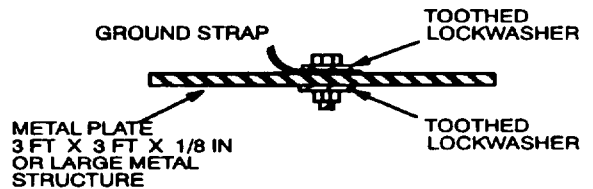

Figure G-9.
(1) In the desert, a ground plate may work better than a ground rod. Use a clean, bare metal plate or sheet at least 3 feet square and at least 1/8 inch thick. Select a metal bolt, nut and lockwasher, then drill a hole in the center of the plate just large enough for the bolt. Fasten a ground strap to the plate as shown in figure G-9. Make sure the connection